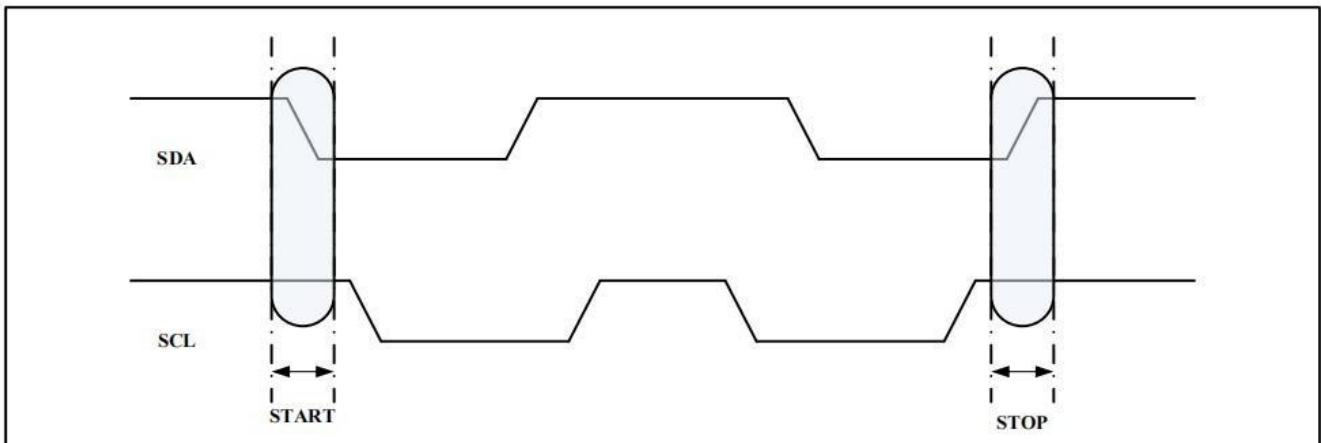

Figure 3. Start and Stop Definition
**START CONDITION:** A high-to-low transition of SDA with SCL high is a start condition which must precede any other command (see **Figure 3**).
**STOP CONDITION:** A low-to-high transition of SDA with SCL high is a stop condition. After a read sequence, the stop command will place the EEPROM in a standby power mode (see **Figure 3**).